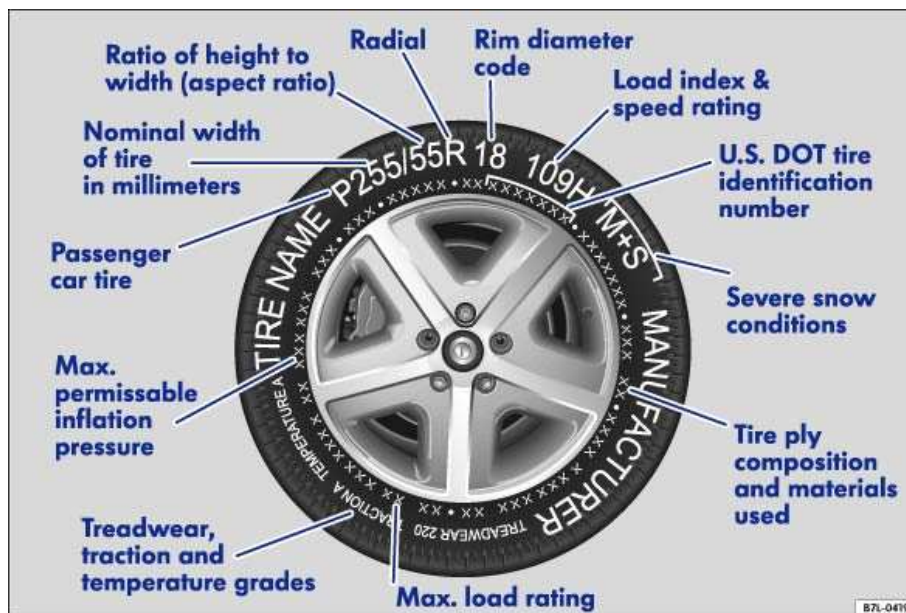

Fig. 22 Tire specification codes on the sidewall of a tire.
- Check the tire sidewall (⇒ Fig. 22) to determine the designated load rating for a specific tire.
Federal law requires tire manufacturers to place standardized information on the sidewall of all tires ⇒ Fig. 22. This information identifies and describes the fundamental characteristics, and the quality grade of the tire. It also provides a tire identification number for use in case of a tire recall.
Quality grades can be found on the tire sidewall between the tread shoulder and maximum section width ⇒ Fig. 22.